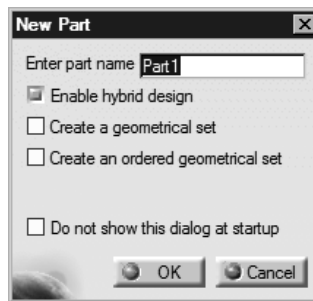

Figure 2-34 The **New Part** dialog box
- Choose **File > Close** from the menu bar to close the **Product1** file. Next, choose **Start > Mechanical Design > Part Design** from the menu bar; the **New Part** dialog box is displayed, as shown in Figure 2-34.